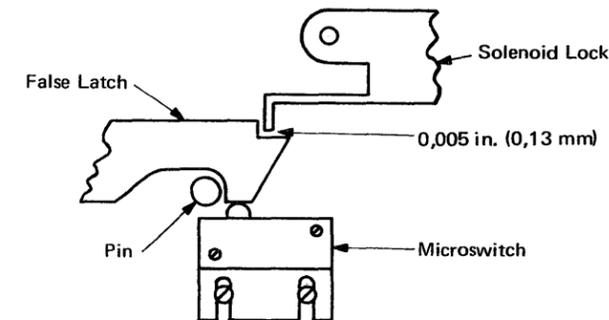

Figure C-1. False Latch Setup [07570]
6. Insert false latch so it rests on latch pin (Figure C-1).